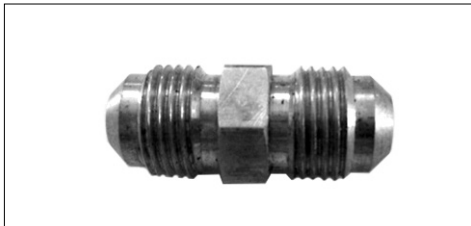
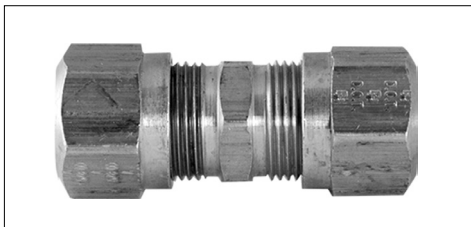

Figure 7: JIC Style (PACCAR)
Figure 8: Compression (DTNA)
Step 2: Splice the return fuel lines together with the appropriate union. Use JIC style (PACCAR) (Figure 7) and Compression (DTNA) (Figure 8).